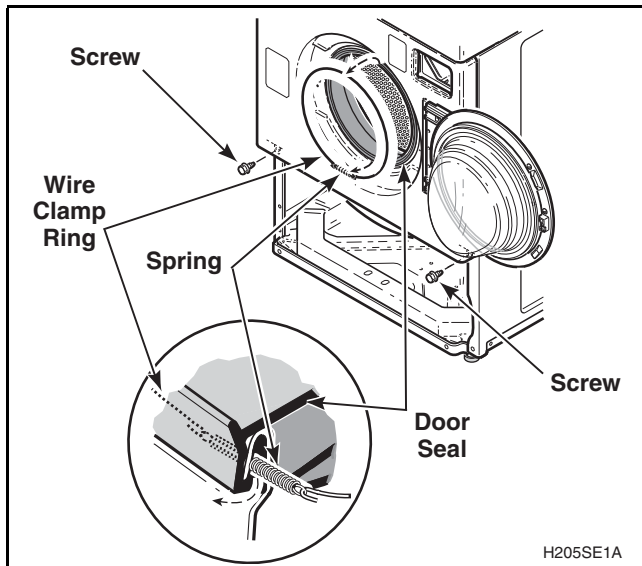

Figure 27
c. Open loading door. Carefully remove wire clamp ring from groove with small flat blade screwdriver. Spring is in 6 o'clock position. Refer to *Figure 27*.